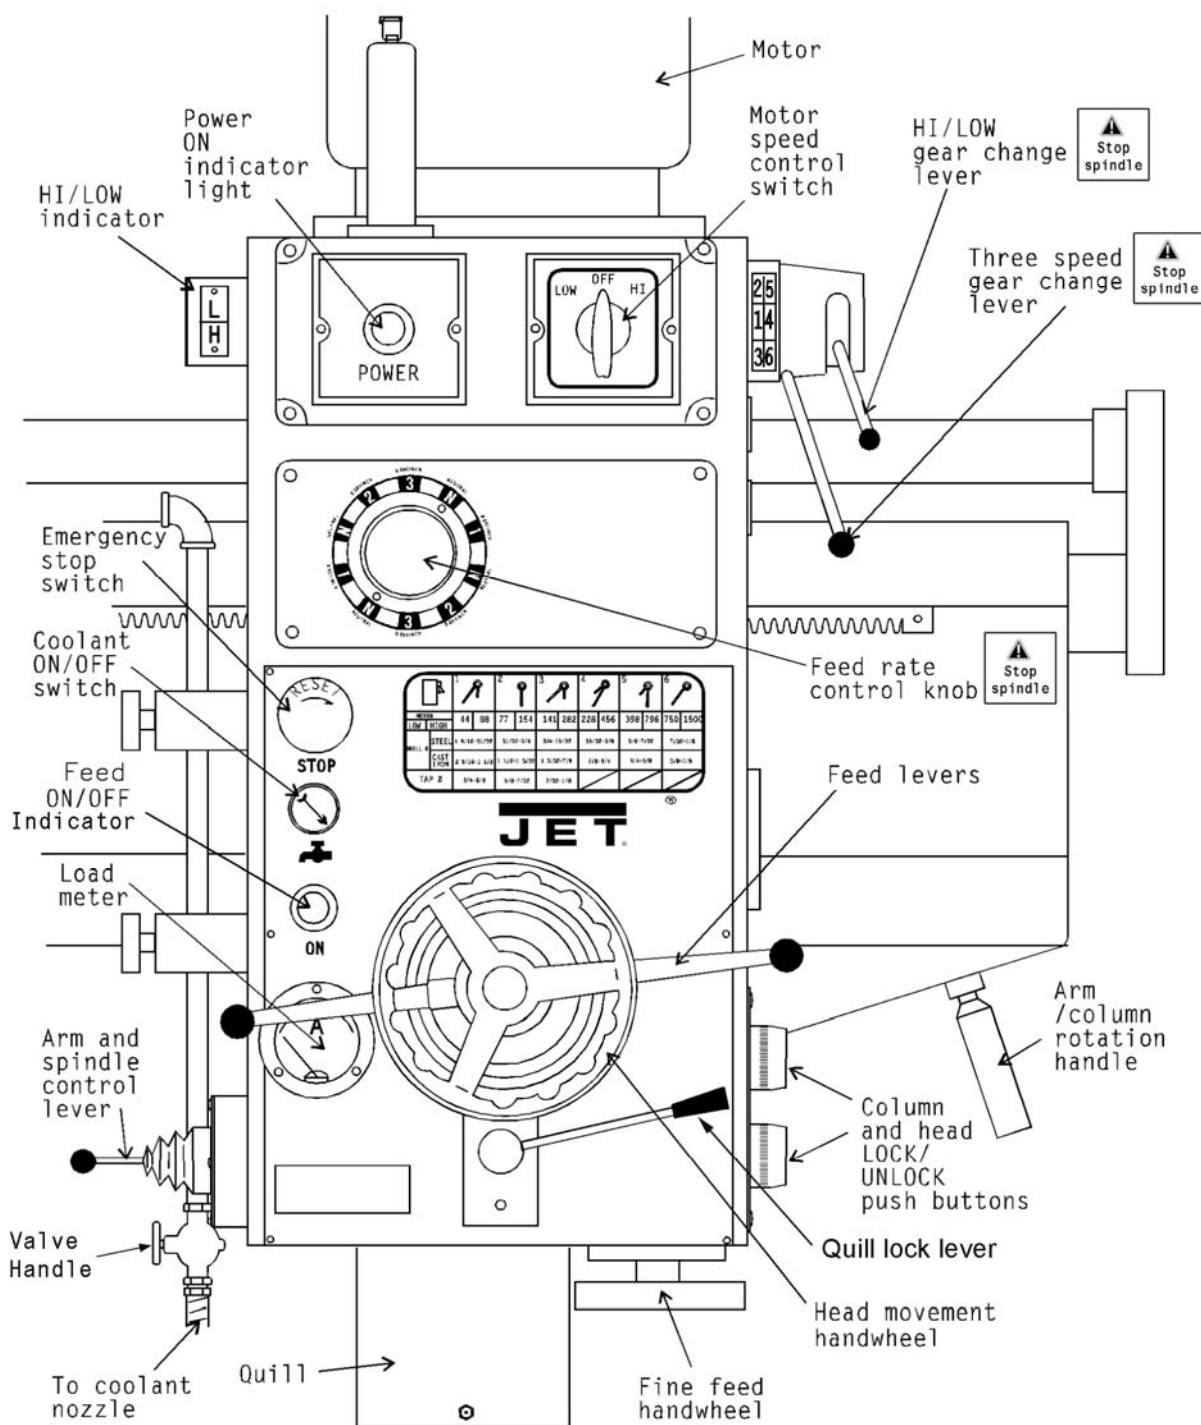

Figure 10
| 12. Drill Head/Gearbox (see Figure 10 for details) | 30. Arm Rail |
5. Turn the coolant switch (See Figure 10) to the ON position.
The buttons which control the locks are located on the right-hand side of the drill head (see Figure 10). Press and hold the UNLOCK button until the arrow (Figure 11) points to "B". Release the button. The clamping device is now disengaged. When locking, press and hold the LOCK button until the arrow points to "A". The clamping device is now re-engaged.
2. Raise or lower arm to required height using the arm/spindle control lever (see Figure 10). See also Section 8.24 *Using the control lever*.
2. Turn handwheel to move the drill head along the arm. See Figure 10.
2. Swing the arm using the handle (see Figure 10) to required spindle position.
Spindle speeds are established using the gear change levers on the upper right-hand side of the drill head (See Figure 10). The shorter of the two levers operates a two-speed mechanism which puts the gearbox in either high gear or low gear. A HI/LOW indicator on the upper left hand side of the drill head identifies the selected speed range.
Spindle rotation direction is managed by the arm/spindle control lever on the left hand side of the drill head. See Figure 10.
The fine feed control wheel is located on the underside of the right-hand side of the drill head. See Figure 10. The fine feed control is used as follows: